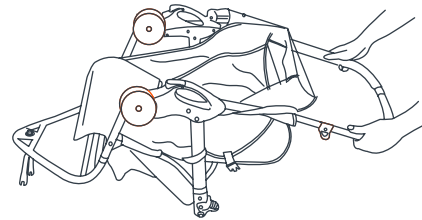

Fig. 1
- 1) • Lean the stroller backwards so that it rests on the handle and rear axle frame and the front wheel forks are pointing upward (Fig 1).